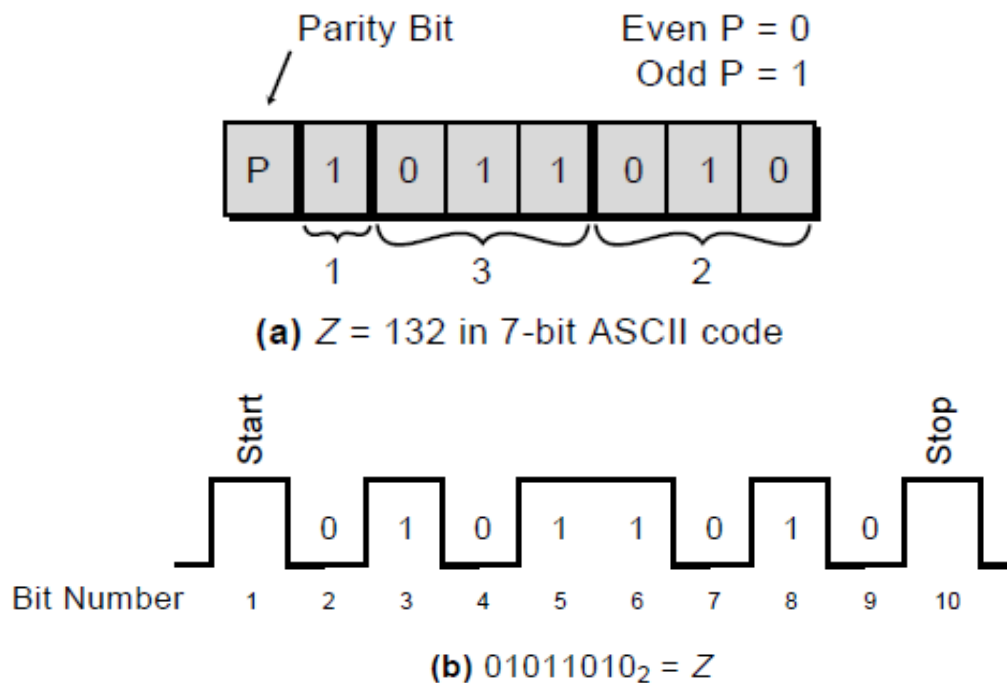

Figure 1-2. (a) ASCII representation of the character Z and (b) the ASCII transmission of the character Z.
Figure 1-2 a shows the binary ASCII code representation of the letter Z (132).